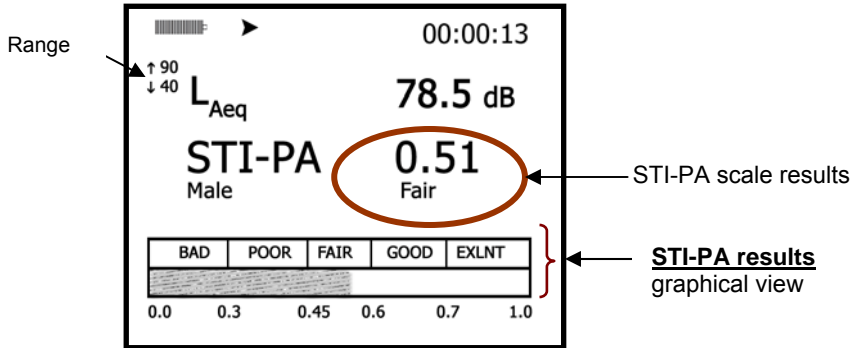

Figure 5-2: STI-PA results screen
6. Press the **Stop**  key to end your study. Figure 5-2 displays a sample STI-PA results screen.